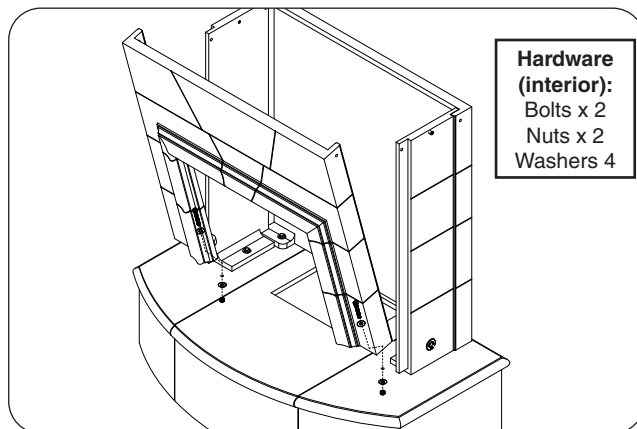

Fig. 23-3 Assemble body - front wall to hearth
3. Place the body front wall piece on top of the hearth. Carefully align the pilot holes to the hearth, insert the hardware (interior hardware kit), and only hand tighten at this stage. See Fig. 23-3.